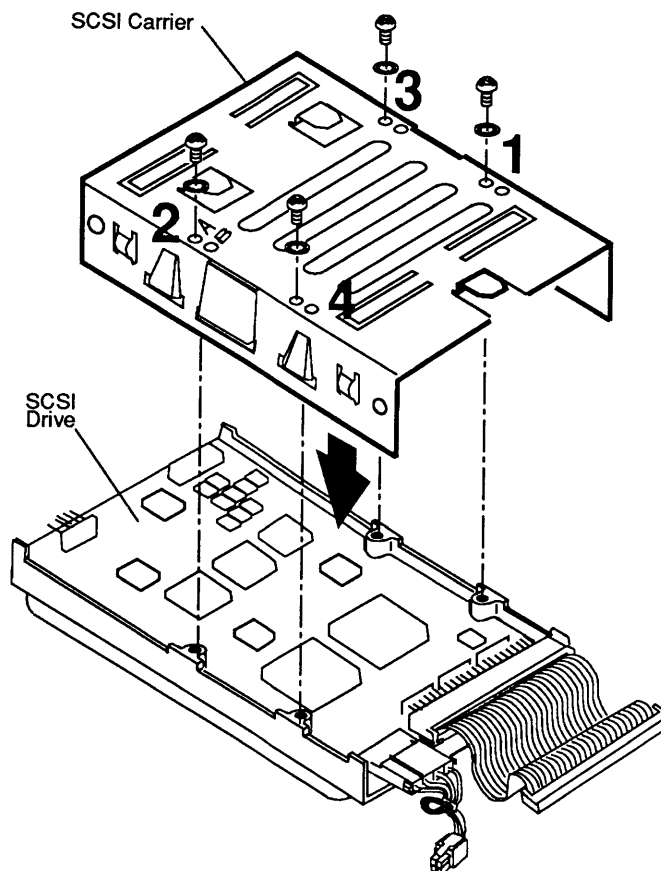

Figure 2-7 Hard Disk Drive Carrier
1. Align the carrier screw hole marked **A** on the replacement hard disk drive as shown in **Figure 2-7**. Use the four lockwashers and Phillips screws to **loosely** fasten the carrier to the drive.
2. Using the torque driver and following the sequence shown in **Figure 2-7**, torque the four Phillips screws to 8.0 in-lbs.
CAUTION: *Be sure to use the Phillips screws that you removed in step 5 above and follow the installation sequence shown in **Figure 2-7**. Failure to do so can damage the drive.*